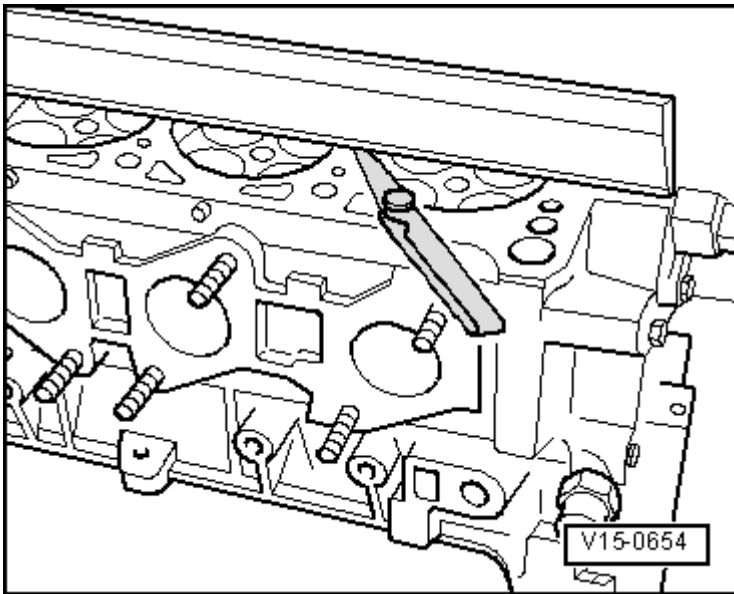

Fig. 3: Checking Cylinder Head For Distortion
- Checking the cylinder head for warpage, refer to **Fig. 3**.